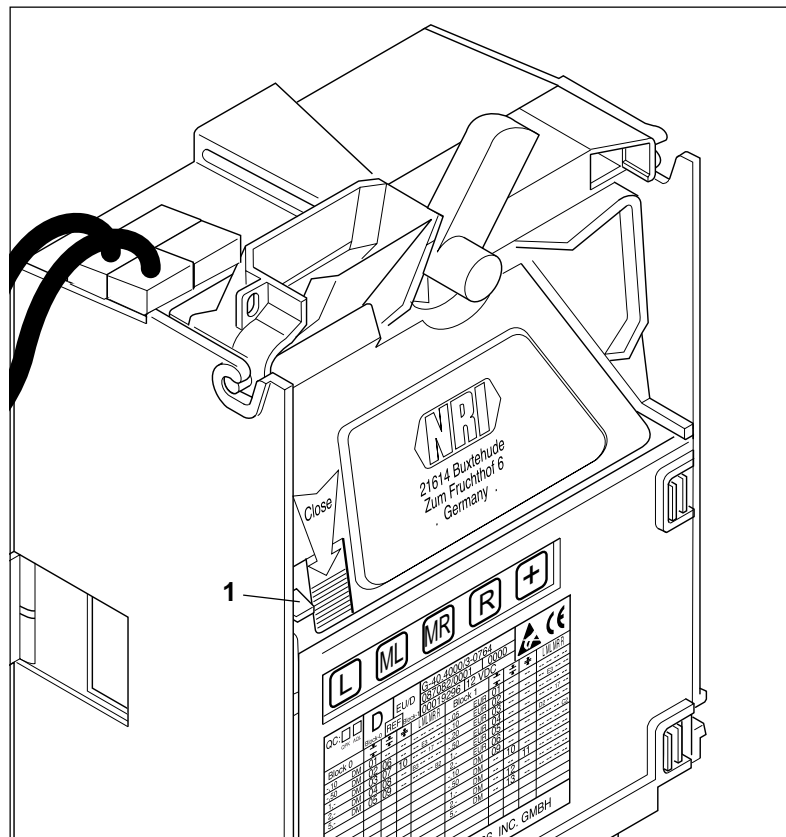

Fig. 12: Open the changer
- Push lever (1) upwards and open coin validator (fig. 12)